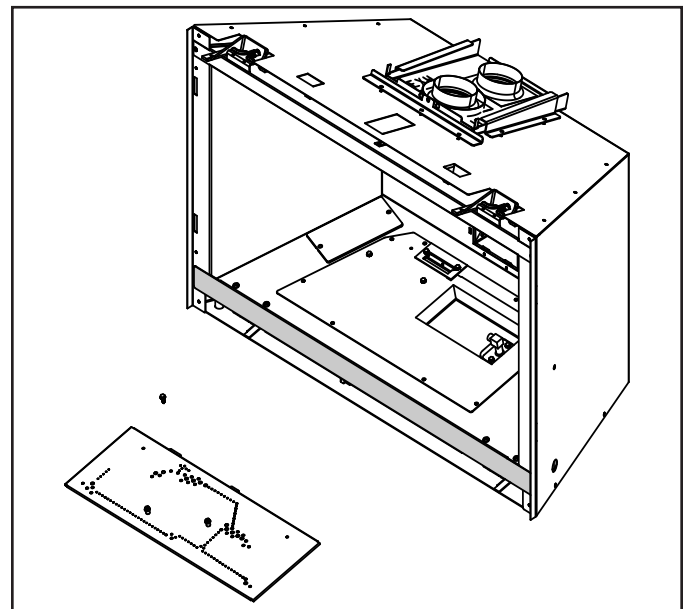

Figure 7 Remove Burner Assembly
13. Remove the burner assembly by removing the screw located behind the burner. See Figure 7.